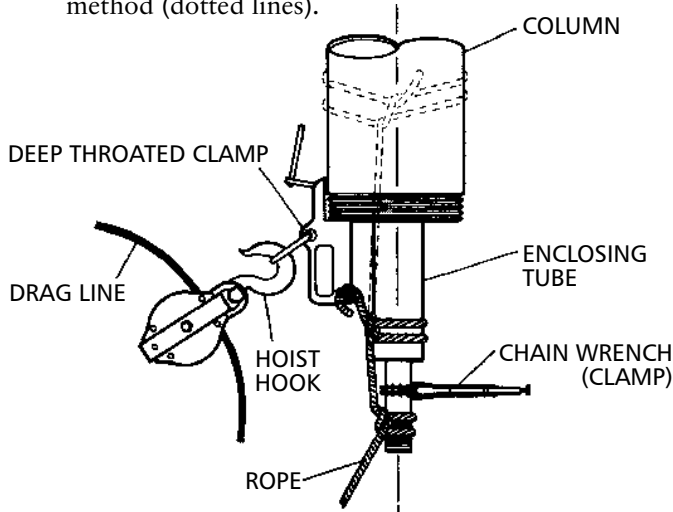

Figure 8
1. Insert tube (654) and shaft (646) sections into column section.
2. Place an elevator clamp near top of column just below and butt firmly against column pipe coupling (645). For flanged columns, place the elevator clamp just below the flange.
3. Attach a sling to hoist hook. Attach bottom of shaft (646) to column (644), by tying a tail rope to deep-throated clamp attached to bottom of column. (See Figure 8). Tie a clove hitch or double half hitch around the enclosing tube and then around the shaft in threaded area. Figure 8 also shows the alternate method (dotted lines).